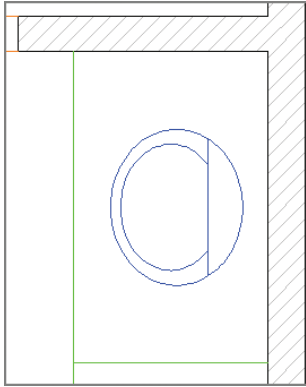

FIGURE 2.6 Directing navigation by positioning the cursor over the bathroom sink while zooming
12. Position the cursor over the bathroom sink, and roll the mouse wheel forward to zoom in. Notice that the view stays centered on the sink without having to pan (see Figure 2.6). Drag the mouse wheel to make slight panning adjustments if necessary to center the target object on the screen.